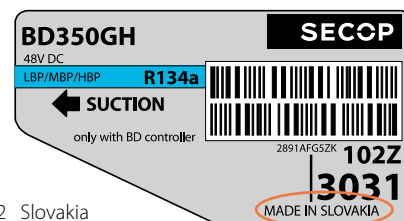

Fig.2 Slovakia
- for compressors made in Slovakia (Fig.2)